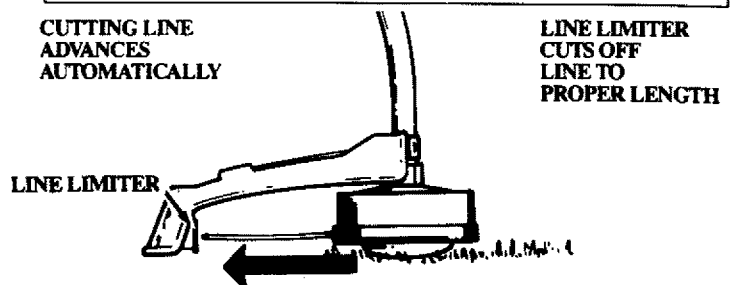

Figure 22
- Always keep the shield in place when the tool is being operated. Figure 22.